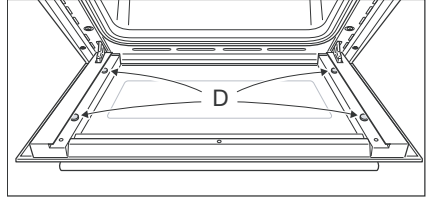

Fig.49a
- Check that the four rubber pads are in place ("D" in Fig. 49a).